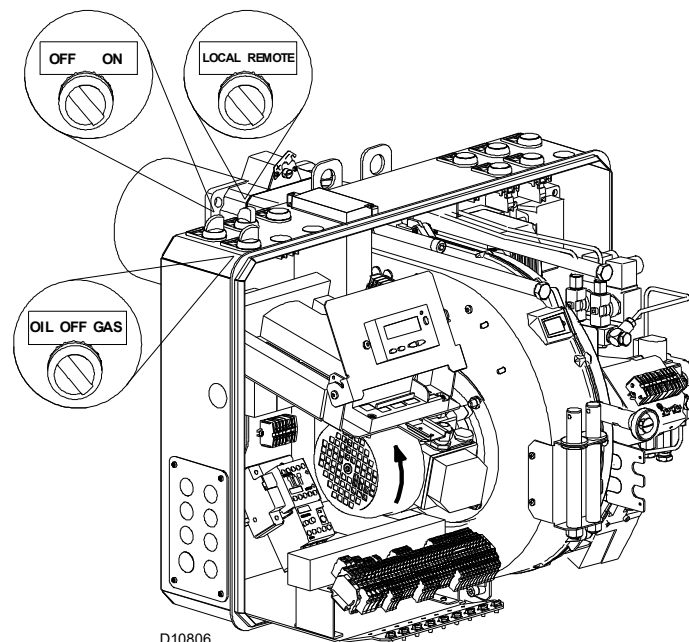

Fig. 36
- Turn the switch to position “ON” (Fig. 36) and turn the switch of to position “LOCAL”;
When the burner starts, check the direction of the motor rotation, as indicated in Fig. 36.